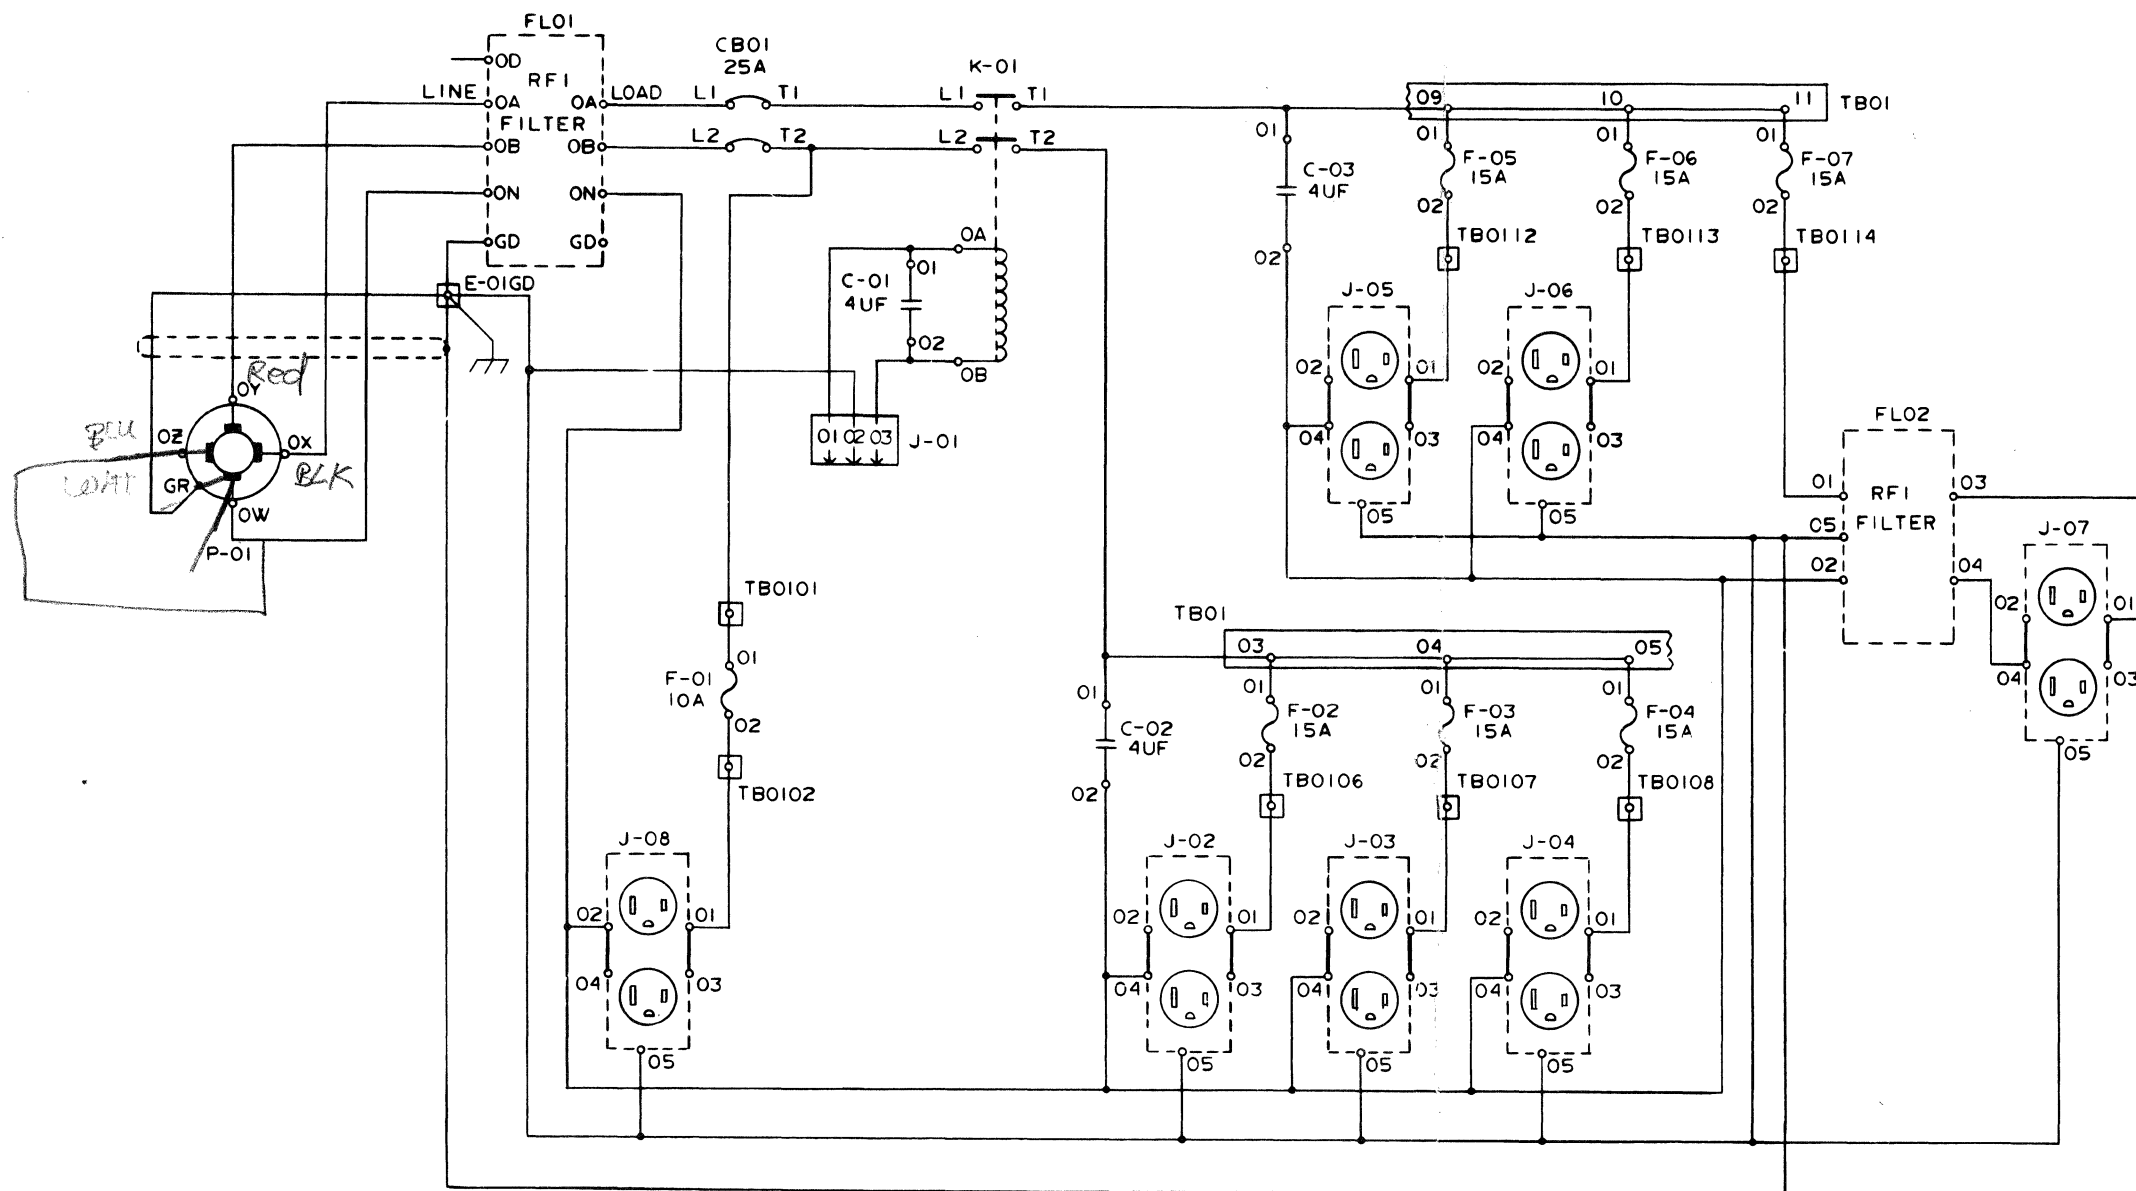

Figure 5-25 Power Distribution Unit, BPDU060B Schematic 60-Hz (60128742)
- Figure 5-25 Power Distribution Unit BPDU060B Schematic - 60 Hz (60128742)